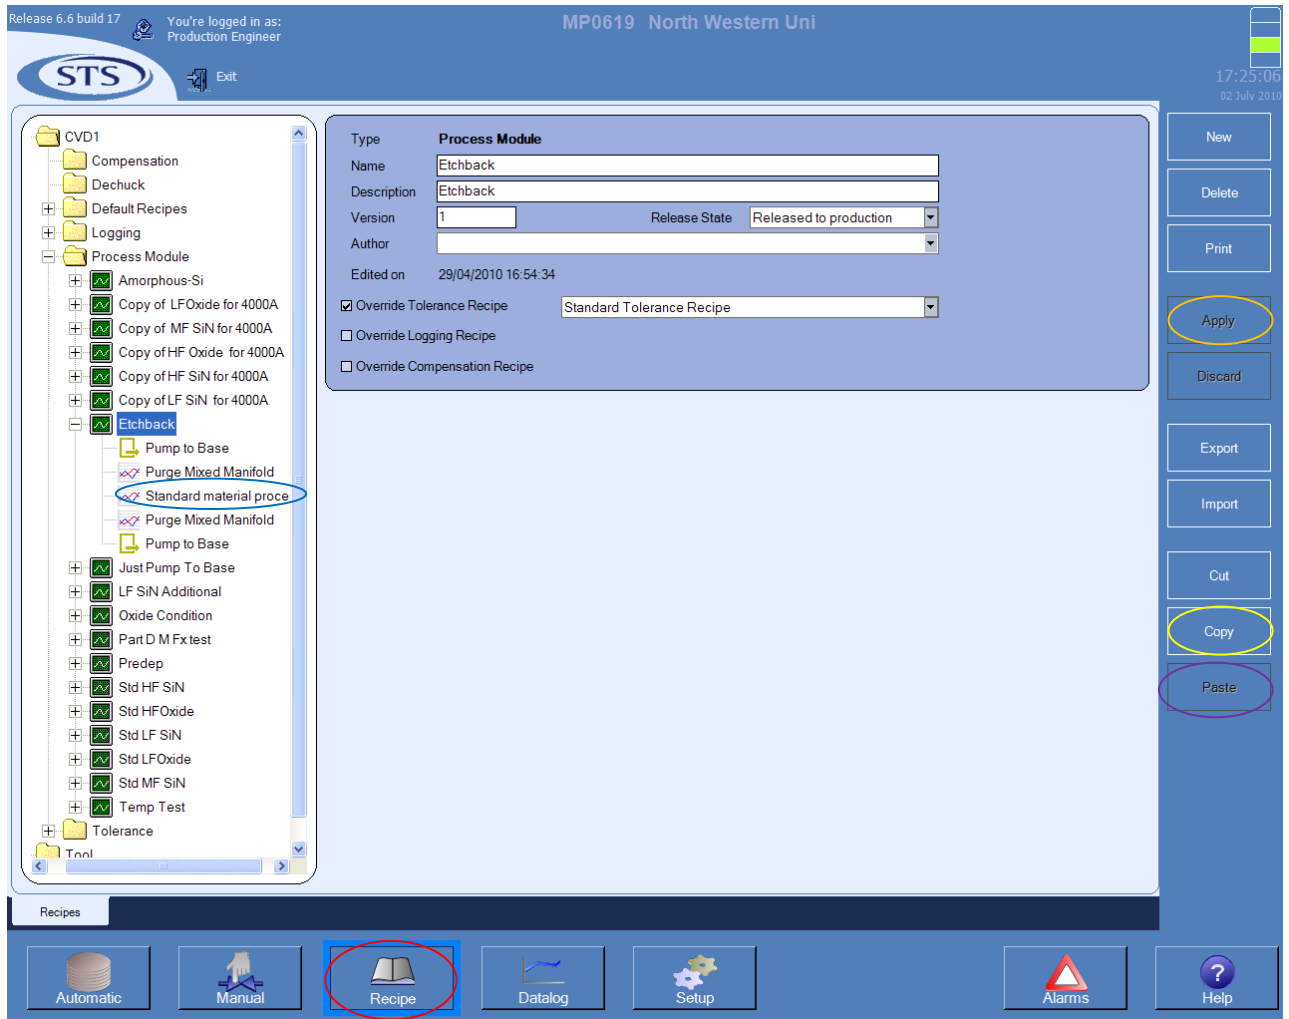

Figure 6: Recipe editing I.
- Go to the screen shown in Figure 6 by clicking on Recipe button (circled in red).
- Recipes contain several modules. Make sure you only make changes in the main etch step. For the recipe shown in Figure 6, the main etch step is called Standard Material Process (circled in blue).